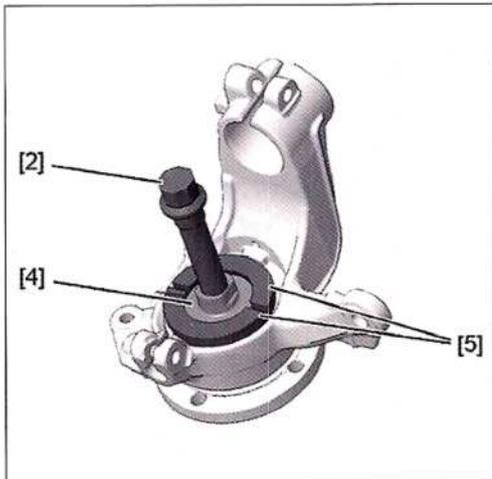

FIG. 33
- Colocar los útiles [4], [5] y [2] (Fig.33).